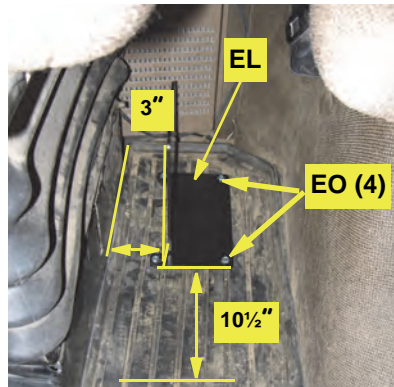

Figure 1b: ECU bracket installation
- b. Facing the one inch tabs of bracket **EL** towards the driver's seat, align the bracket parallel to the tractor seat frame. The bracket should be 3" from side of the seat frame and 10½" from the front edge of the seat frame (Figure 1b).